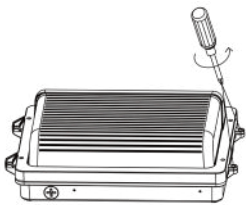

Fig. 1.1
1. Remove both screws on the side of the luminaire with a screwdriver (Fig 1.1).